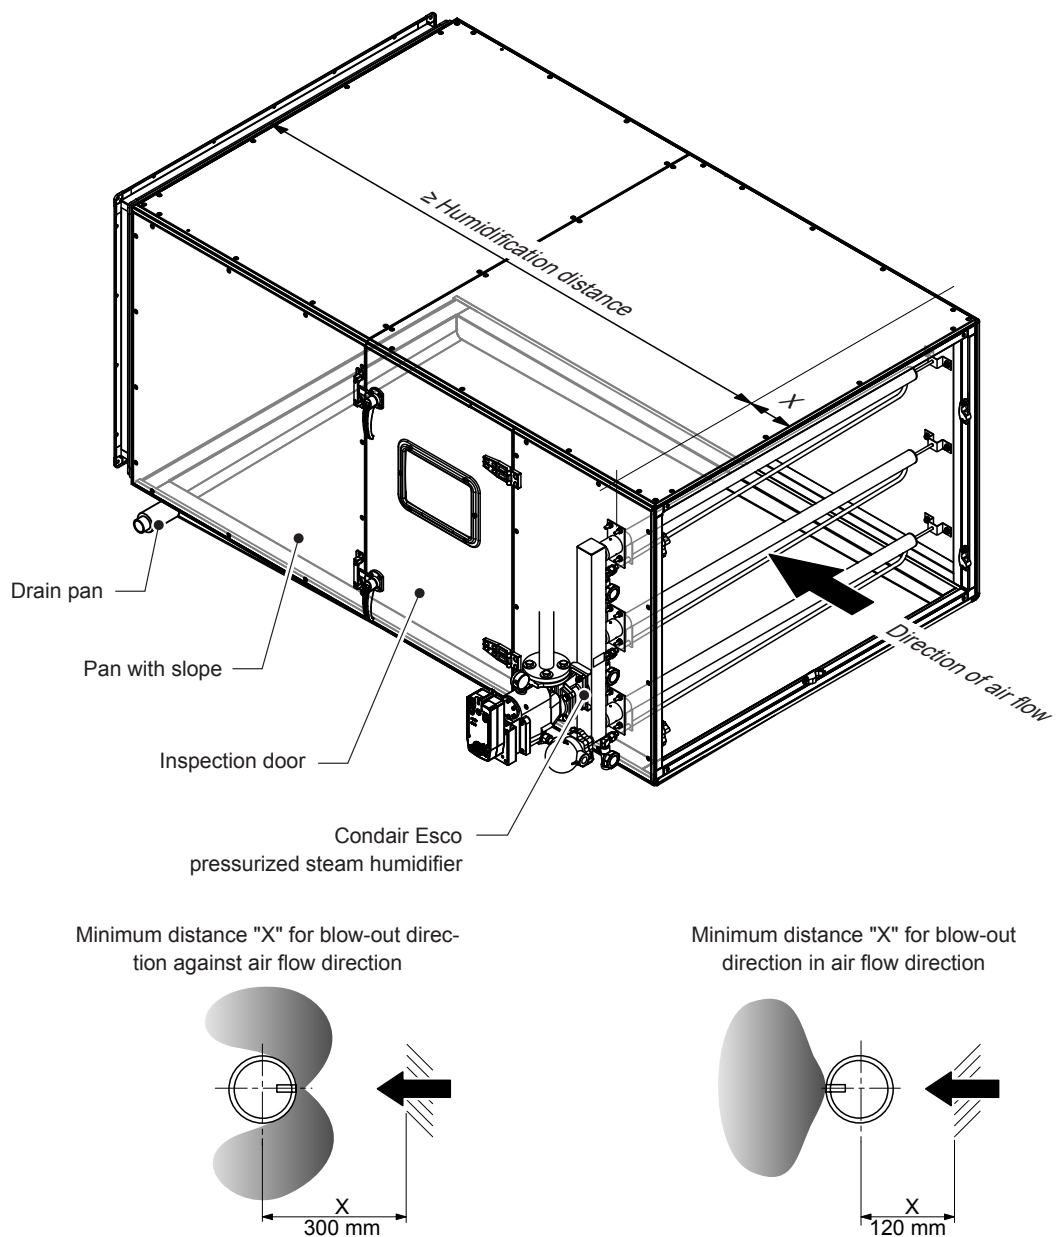

Fig. 27: Duct/DL40 ventilation unit/distance to upstream and downstream obstacles
- Distance to upstream obstacles for DL40 at least dimension "X" (see Fig. 27).